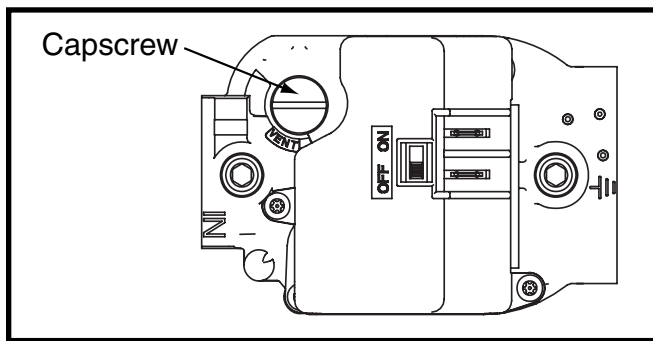

Figure 15. Regulator Capscrew
7. Remove the regulator capscrew from the INLET side of the regulator. See \(Figure 15\).